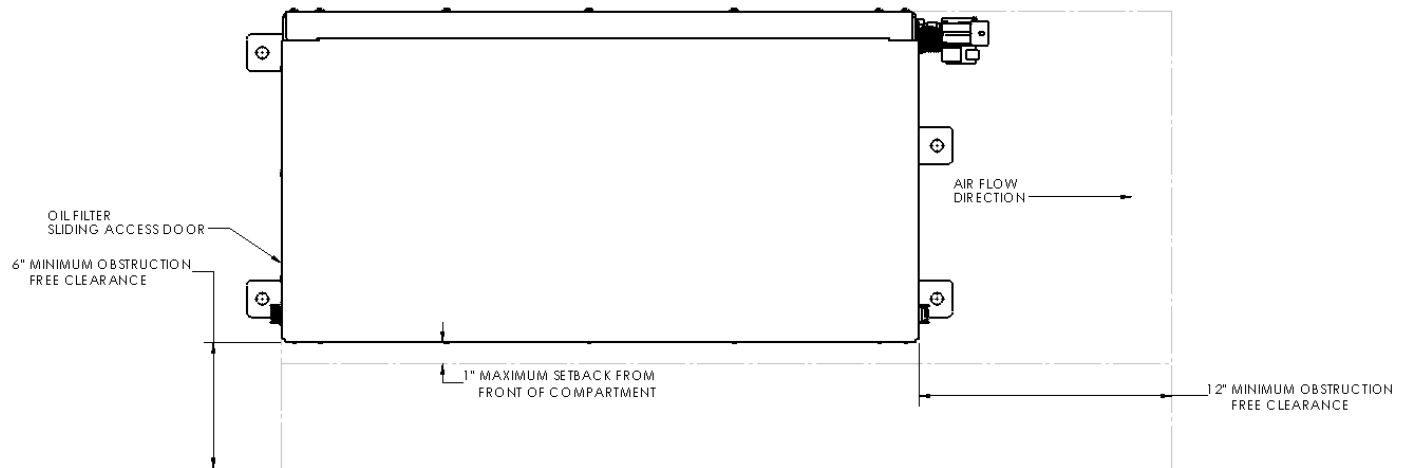

Figure 3 – Minimum Clearance for Proper Ventilation (Top View)
2. SPS models LR-6.2, LR-8, and LR-MATRIX can be mounted on top of a vehicle, in the open, without requiring any additional coverings. Reference Figure 3 and minimum clearances around the perimeter of the generator's tray assembly. Also, do not position any obstructions directly in front of the system's oil cooler. If the system cannot be installed without maintaining the minimum clearances as indicated, or if you have any questions relative to the installation of these systems, contact Smart Power Systems® at (231) 832-5525.
3. Locate and bore mounting holes for generator tray assembly as shown in Figure 5. Maintain minimum clearances as indicated in Figure 3.